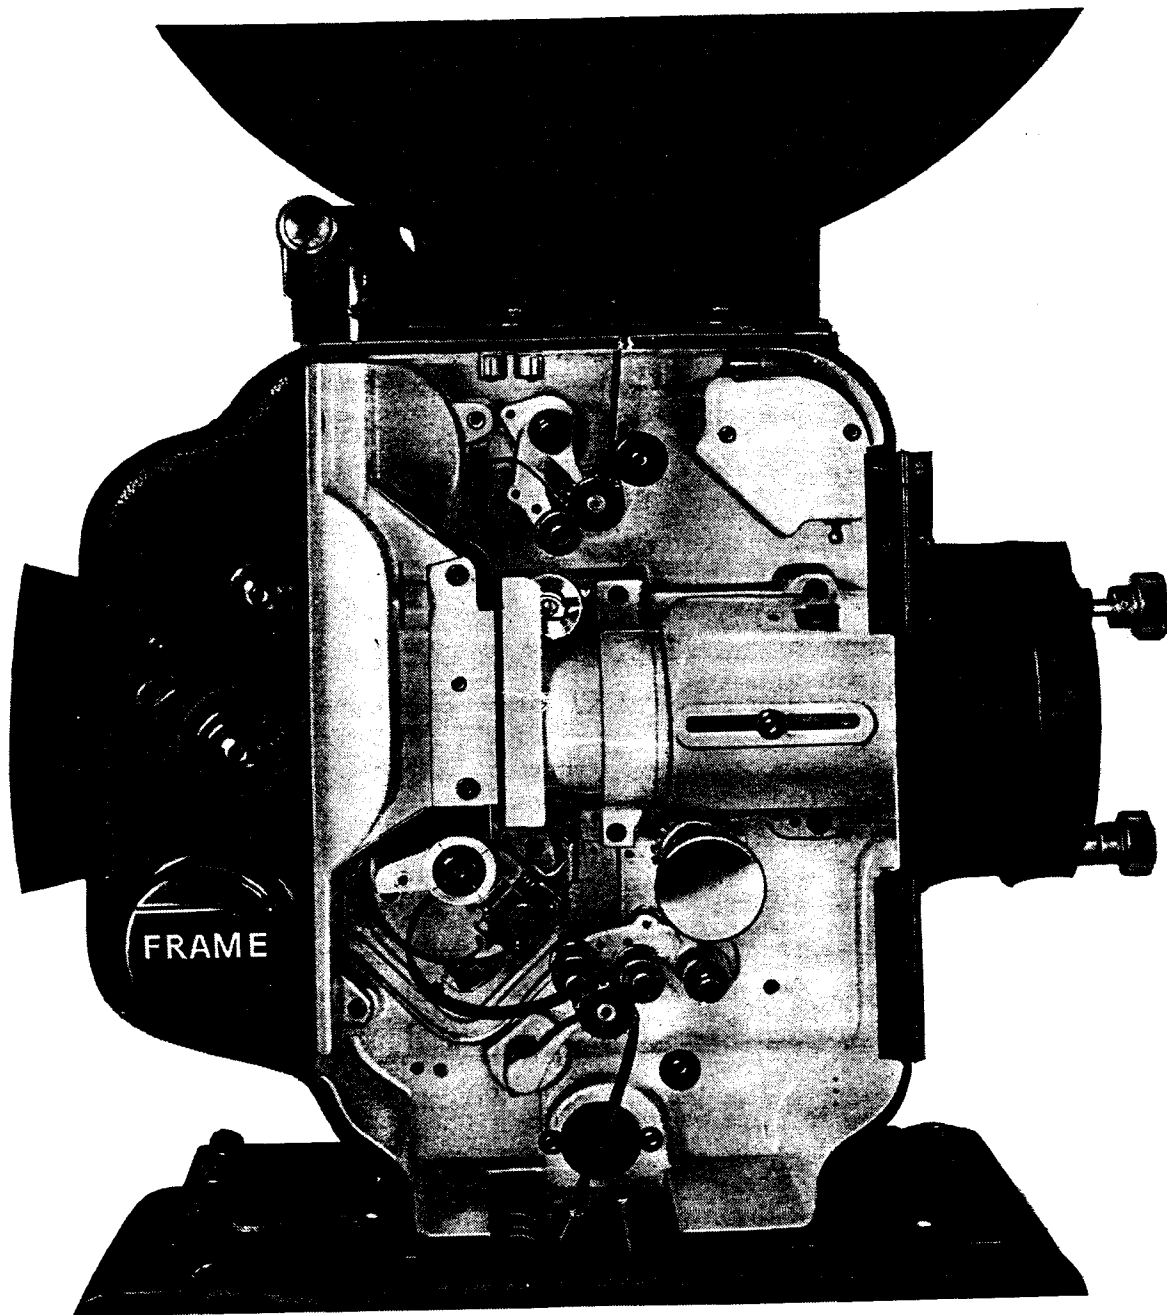

FIG 6 OPERATING SIDE WITH FILM THREADED
11. Make about a four inch lower loop and place the film under the lower pad rollers and over the lower feed sprocket and thence down to the soundhead. Close the pad rollers. (See Fig. 6 for complete threading diagram.)